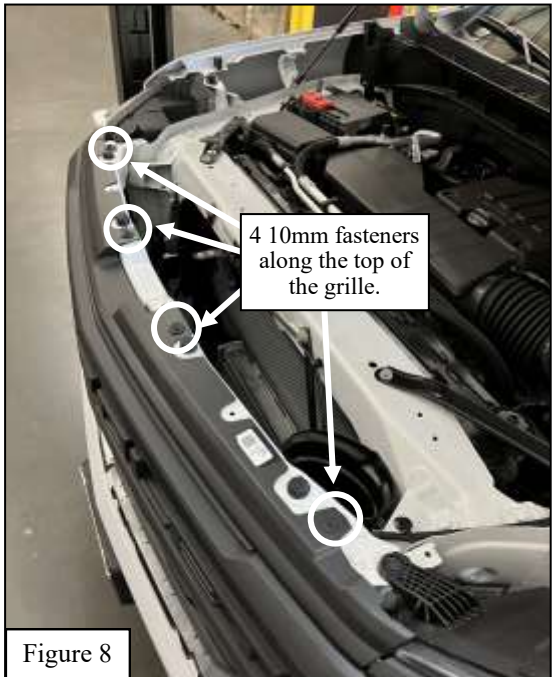

Figure 8
12. Remove the fasteners retaining the grille. There are 4 fasteners along the top and three along the bottom. See **Figures 8 & 9** for reference.